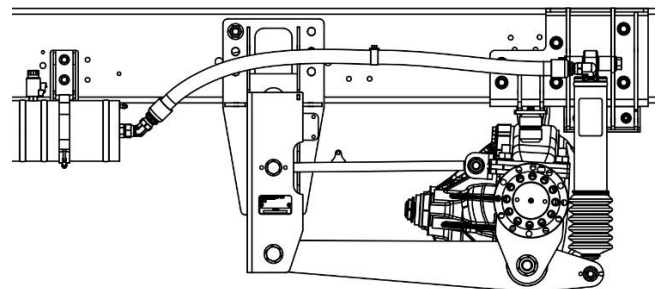

Figure 25. Driver side outboard hose routing.
12. Secure hose with clamps and 5/16" hardware making sure to secure hoses from movement or chafing, as shown in Figure 25. Drill attaching Ø3/8" holes as necessary.